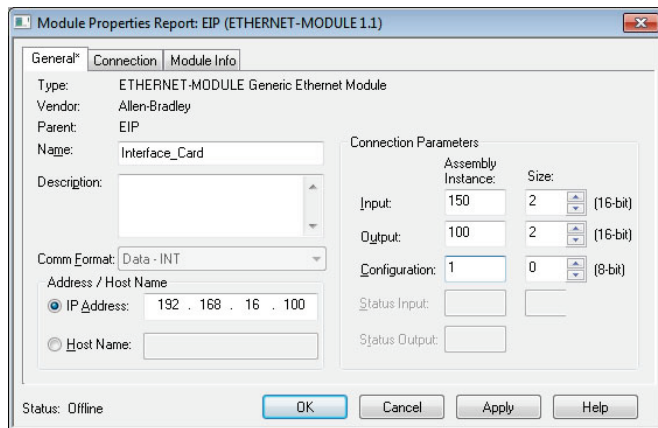

Figure 42: Interface Card Module Properties
- 4) The module properties dialog box will open (refer to Figure 42). Enter a Name which will allow easy identification of the inverter on the network (the tags created in RSLogix 5000 will be derived from this Name). Because all inverter data is stored as 16-bit registers, change the "Comm Format" selection to "Data-INT". Enter the IP address of the targeted interface card.